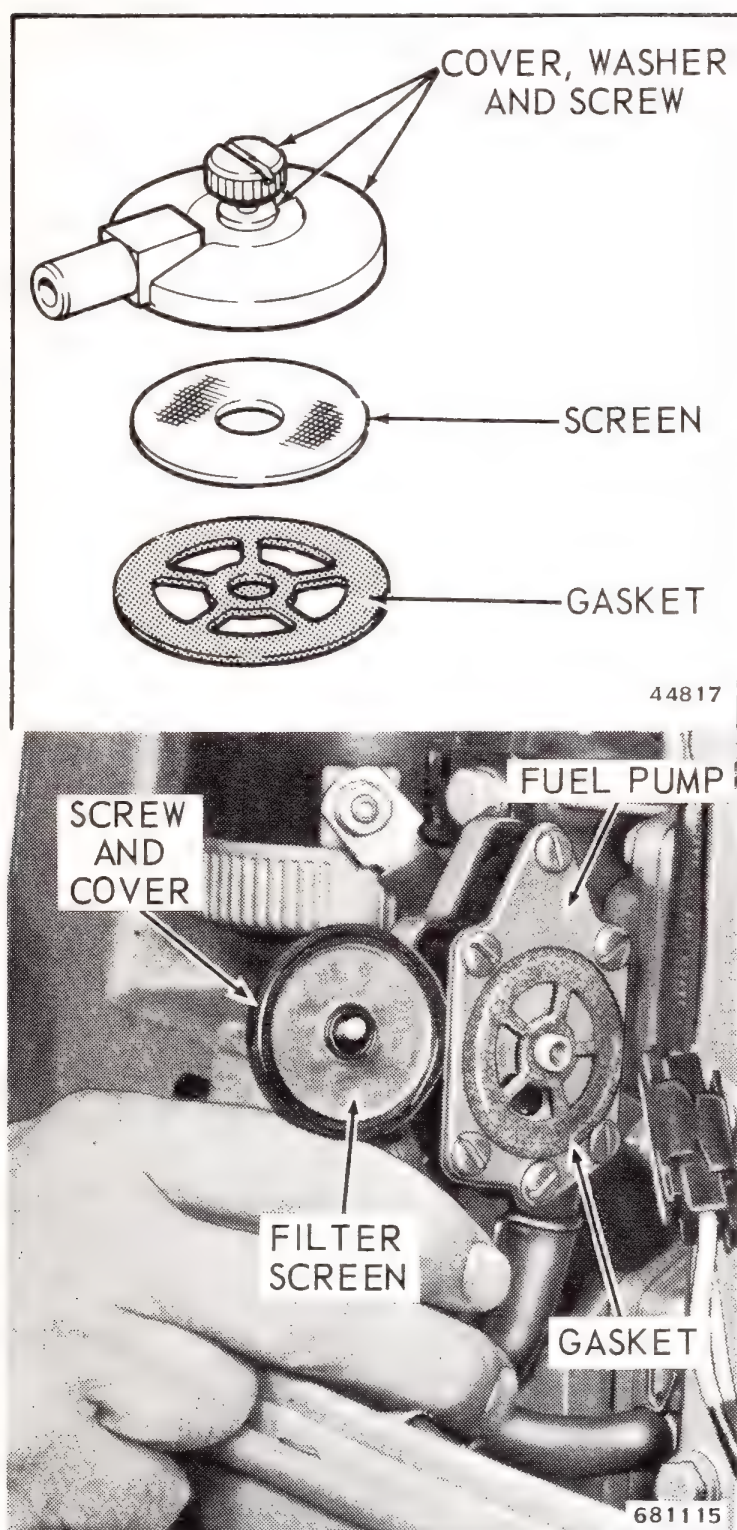

Figure 3-22. Fuel Filter and Pump
Before servicing or replacing fuel pump, remove the fuel filter screen, and install a new filter screen. See Figure 3-22. Also remove the fuel hose from the fuel tank and blow through all passages and lines with compressed air to be sure they are open. If clogged lines are the cause of the difficulty, this procedure would eliminate unnecessary servicing of the fuel pump. If this procedure does not correct the trouble, fuel pump is probably malfunctioning and should be replaced.
- To remove fuel pump, remove two screws attaching pump and filter assembly to air silencer, and remove pump and filter assembly. See Figure 3-22.
b. Inspect the filter for accumulation of sediment by removing the filter cap screw and the filter cap. See Figure 3-22.